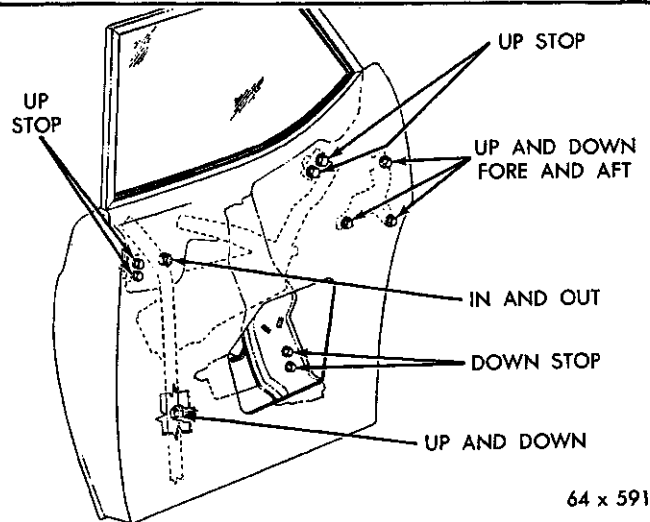

Fig. 19—Quarter Glass Adjustments (Chrysler)
(3) Adjust the upper track attachment until the rear of the glass touches lightly on the cat whiskers at the outside panel.
(4) Raise the window fully and adjust the lower frame so it is parallel to the belt line of the quarter outside panel.
(5) Adjust the lower stabilizer attachment until the front of the glass is aligned with the rear of the front door glass at the roof rail.
(6) Adjust the regulator pivot bracket (up or down) so the top of the glass is fully against and parallel to the roof rail weatherstrip.
(7) Adjust the **UP** stops against the lower window frame.
(8) Lower the window until the top edge of the glass is slightly below the belt line.
(9) Adjust the lower track attachment until the boss of the sleeve nut is against the inside panel.
(10) Adjust the center support, at the roller track, against the inside panel.
(11) Operate the window and inspect the alignment and operation.
(12) Install the weather seal, trim panel, hardware and rear seat back and seat.
19. QUARTER GLASS ADJUSTMENT (Chrysler Models) (Fig. 19)